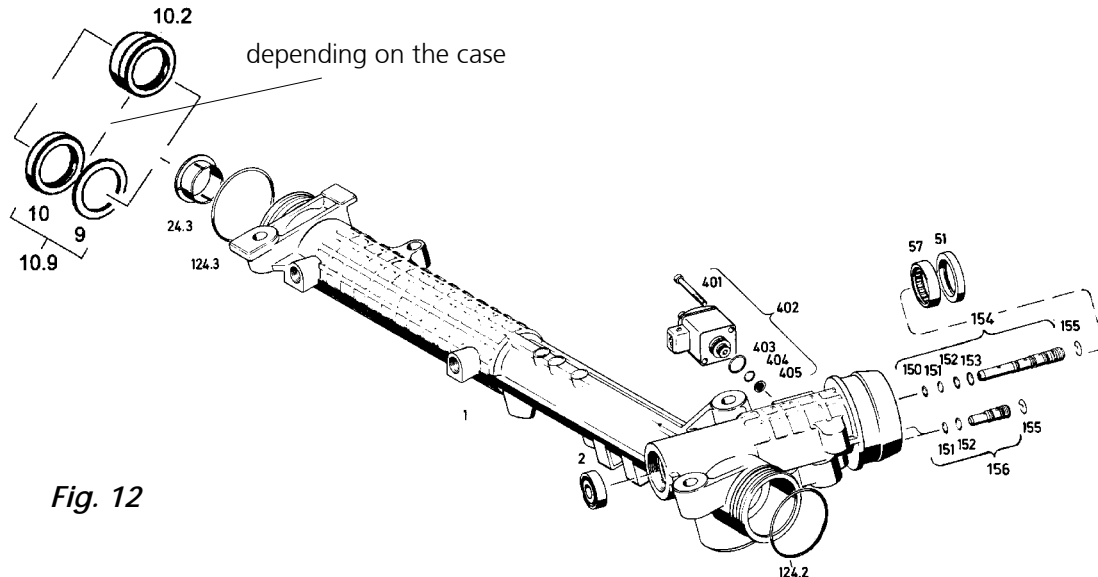

Fig. 12
6.2.1 Cornered transducer housing (402):
Unscrew the two diagonally opposed unsealed cap screws (401) (Fig. 12).
6.2.2 Round transducer housing (402):
6.2.3 Cornered and round transducer housing (402)
Pull off the transducer (402) (Fig. 12).